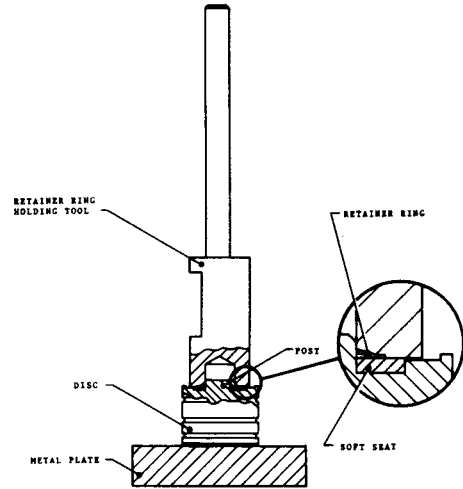

FIGURE 4
- a. Clean disc, put it on a metallic plate (see Figure 4). Disc surface having spindle pocket will lie on the metal plate.
- b. Pick up an appropriate washer of the specified material. Clean this with lint free cloth. Inspect it for nicks, cuts, dents, concentric hole, etc. (defective part should be rejected). Put Washer on the Disc (see Figure 4).
shown in Figure 4). Provide slight force to position Retaining Ring over the post. After removing force and inspecting proper positioning of Retaining Ring, press the Retaining Ring again, hard enough, to move Retaining Ring down to hold the seat washer tightly. A properly assembled soft seat will be somewhat compressed by Retaining Ring.